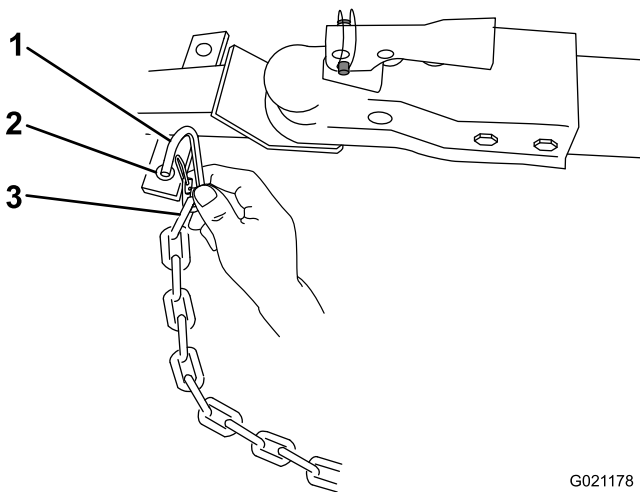

**Figure 19**
1. Pull the safety chain through the slots in the keyholes located in the front post of the machine, so that there is just enough slack on each side for turning around corners when towing the machine (Figure 19).